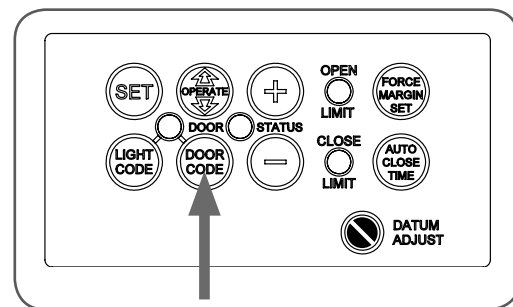

fig 31
- Press and hold the DOOR CODE BUTTON (**Fig. 31**).
- While switched off, press and hold the DOOR CODE BUTTON (**Fig. 31**). Turn on power to the opener while holding this button.